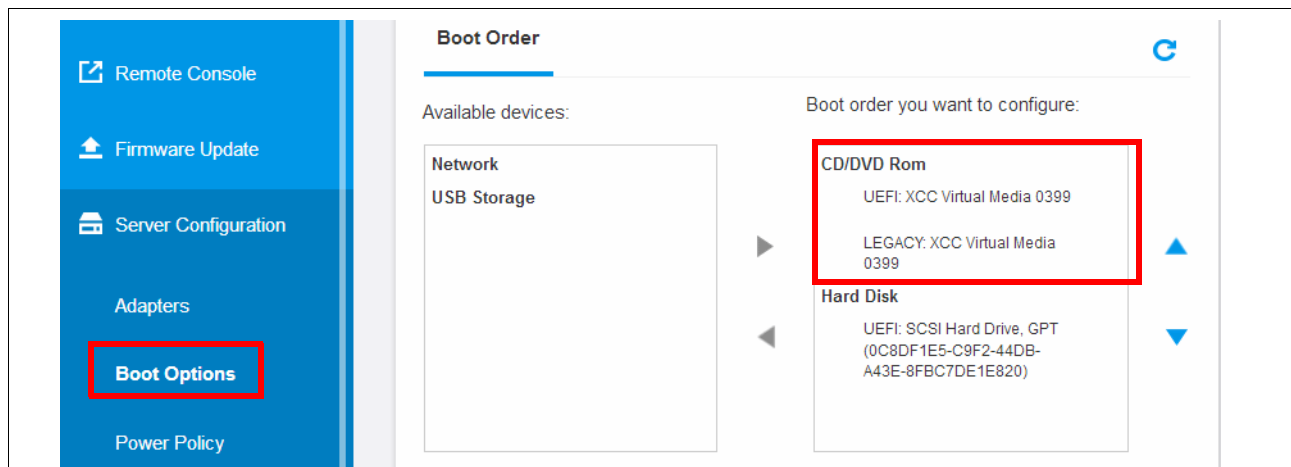

Figure 6-10 ISO image mounted
13. To clarify that the OS has been mounted and ready to boot to, you can confirm its presence in XCC under **Boot options**, as shown in Figure 6-10. The server is now ready to be rebooted and will load the ISO.